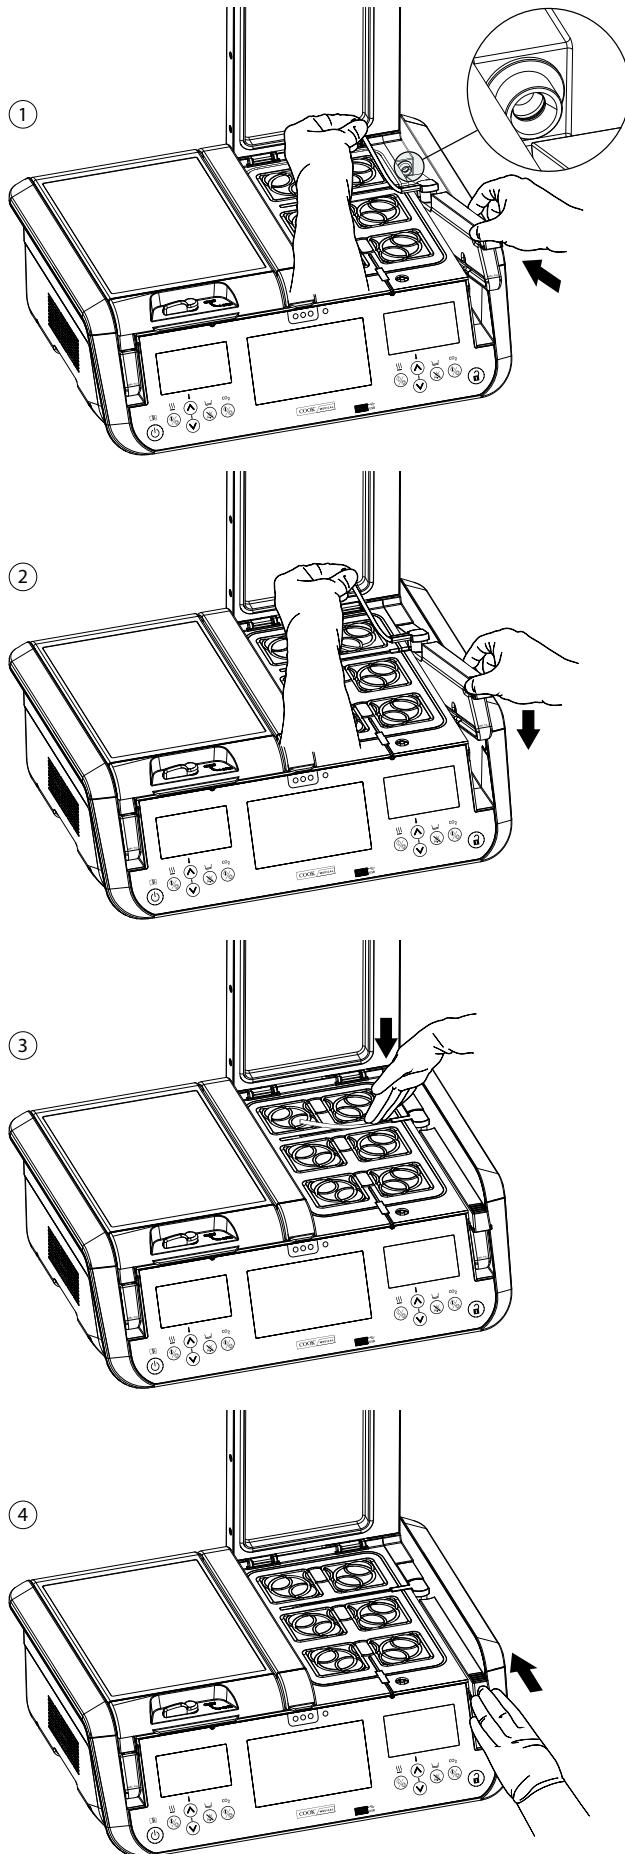

Figure 12: Steps for humidification flask installation
2. Hold the humidification flask upright with the flask T-piece oriented into the chamber in which the flask is to be installed. Hold the top latch back. While holding the end of the flask T-piece as high as possible to prevent water from spilling out, insert the flask into the humidification flask (HF) bay at a 10-15 degree angle, positioning the HF seal housing over the HF bay gas nozzle at the back of the HF bay (see **Figure 12**).